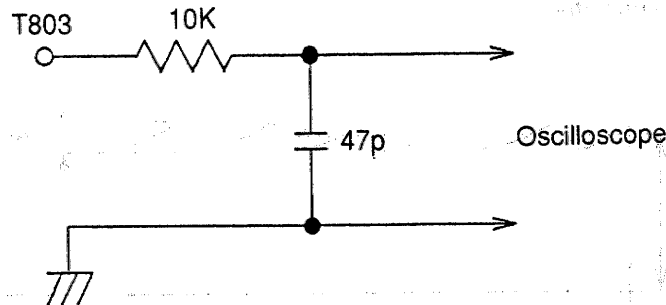

Figure 3-5-1 Pad
⑤ PAL Chroma Adjustment (T752, VR811) (1H DLY adjustment)
- (1) Turn the color VR to the maximum position, and receive the DEM signal.
- (2) Connect an oscilloscope to TP803 via the pad shown in Figure 3-5-1.